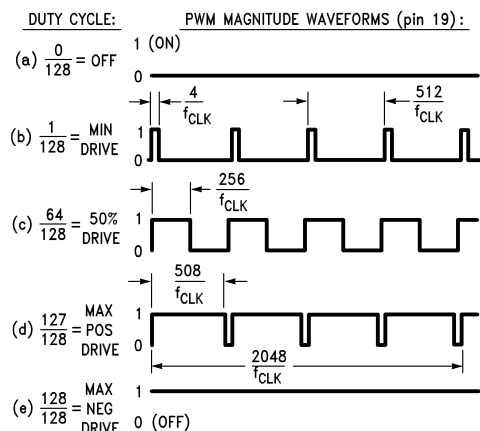

Figure 12. PWM Output Signal Format (Sign output (pin 18) not shown)
3. LM629 (sign/magnitude outputs): Outputs a PWM sign signal on Pin 18 (11 for surface mount), and a PWM magnitude signal on Pin 19 (13 for surface mount). Pins 20 to 25 are not used in the LM629. Figure 12 shows the PWM output signal format.
The LM629 provides 8-bit, sign and magnitude PWM output signals for directly driving switch-mode motor-drive amplifiers. Figure 12 shows the format of the PWM magnitude output signal.